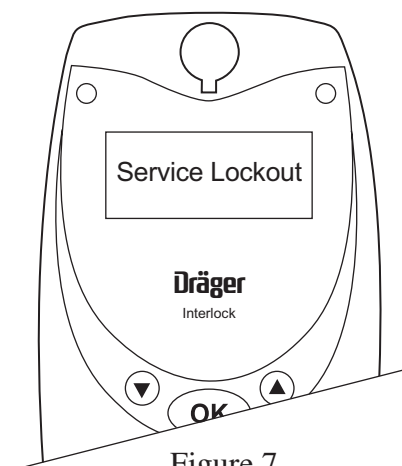

Figure 7
- If you do not get the device serviced, it will go into permanent lockout. When you try to start your vehicle, you will see "Service Lockout" (Figure 7).